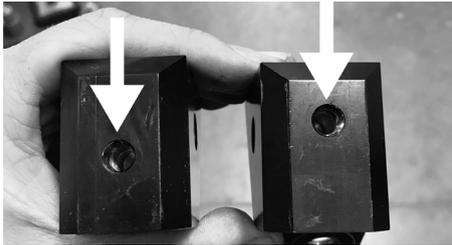

Fig. 4 Driver's side (Left), Passenger's side (Right)
- The JL 3.0 Factory Race Series Shocks come with two relocation blocks for the lower front shock mounting. Relocation blocks must be installed in each OEM lower shock mount for the 3.0 Factory Race Series Shocks to fit correctly. See Figure 4 to determine the Left and the Right bracket.